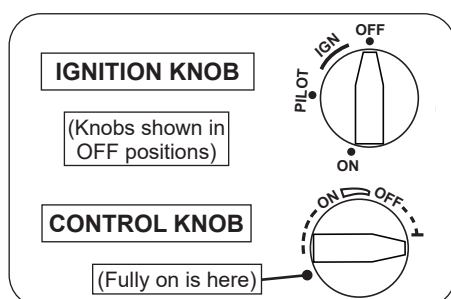

Fig. 21-1 Ignition and control knobs
2. Locate the valve on the unit. Push in the ignition knob slightly and turn clockwise ↻ to **OFF** (see Fig. 21-1).
5. While still holding the knob in, turn the knob counterclockwise ↺ to **PILOT** until you hear a click (piezo igniter will activate and light pilot). Continue to hold the knob in for about one (1) minute after the pilot is lit. Release the knob and it will pop back out. The pilot will remain lit. See Fig. 21-1 and 21-2. If it goes out, repeat steps 2-5.
1. Ensure the pilot is burning. Turn the ignition knob counterclockwise ↺ to **ON** (see Fig. 21-1).
2. Turn the control knob counterclockwise ↺ to the fully ON position to ignite the burner (see Fig. 21-1). The valve will open and the burner will light.
**To shut down the main burner (pilot will remain lit)**, turn the control knob clockwise ↻ to the fully OFF position (see Fig. 21-1).
**To shut down the burner and pilot (total shutdown)**, turn the control knob clockwise ↻ to the fully OFF position, and push in the ignition knob slightly and turn clockwise ↻ to **OFF** (see Fig. 21-1).